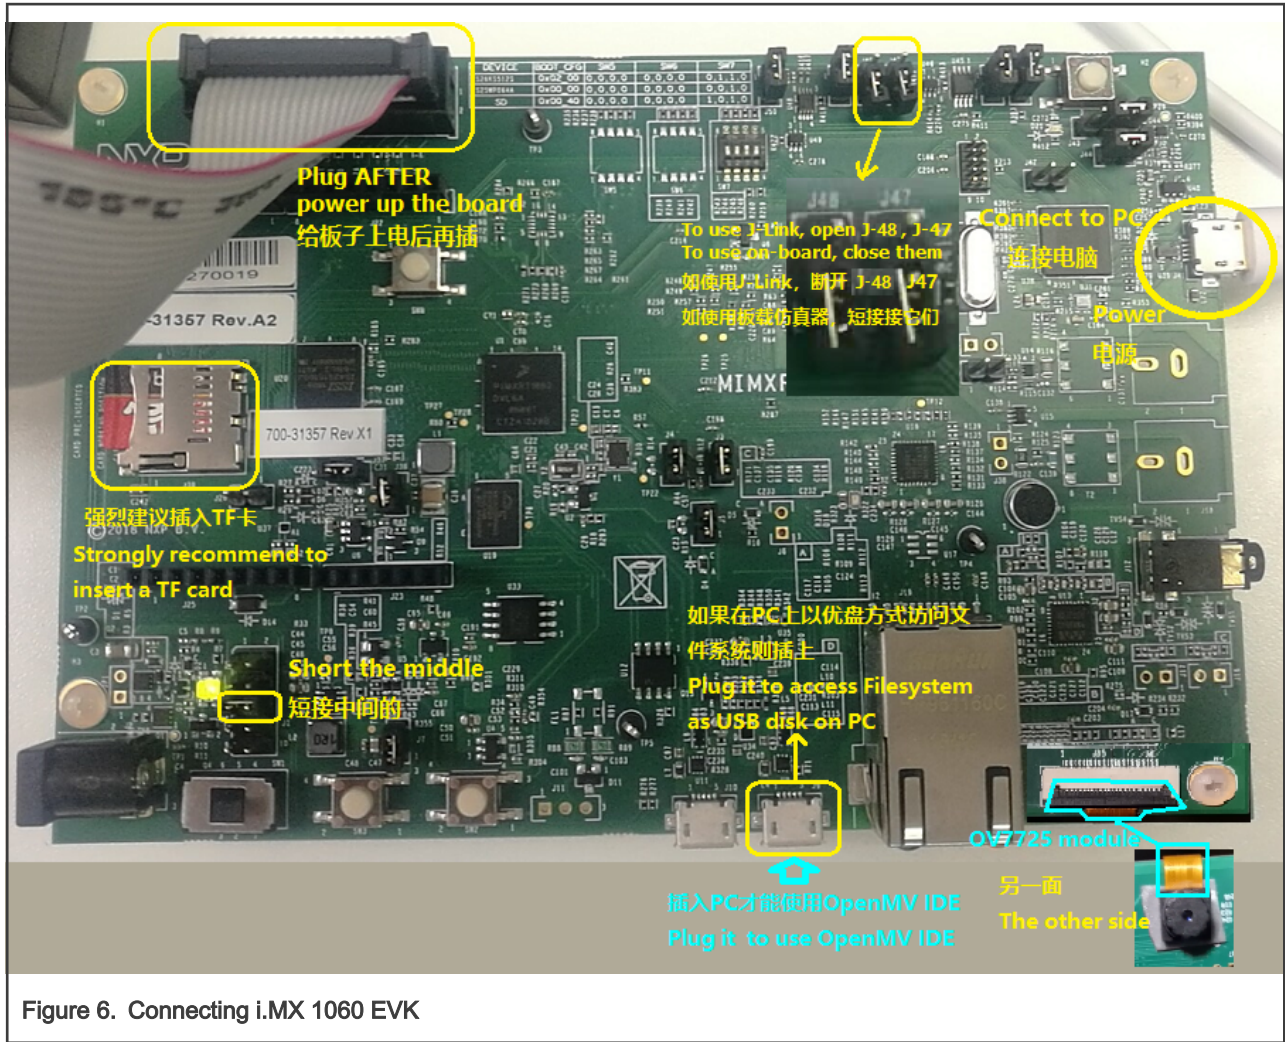

Figure 6. Connecting i.MX 1060 EVK
2. Connect the i.MX RT1060 EVK, as shown in Figure 6.